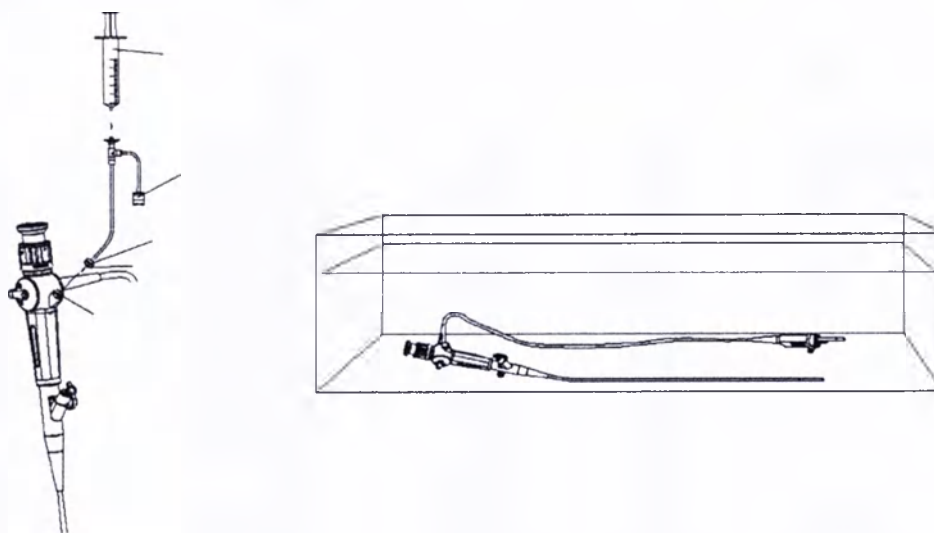

Fig. 8
5. Connect irrigator to the exhaust valve (as it is shown on fig. 8), wash all the channels with clean water or disinfection solution.